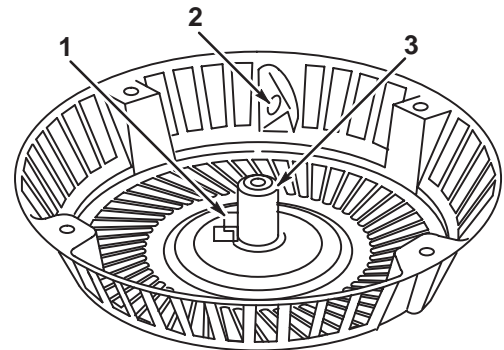

Fig. 75 – Inspecting Starter Housing
4. Inspect starter housing for wear or sharp edges at rope eyelet, center pivot post, and inner spring anchor, Fig. 75.